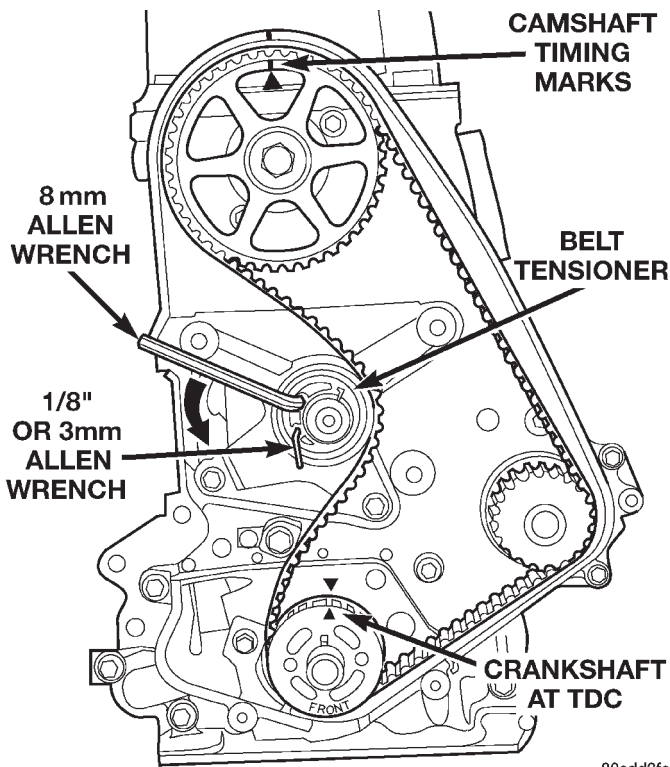

Fig. 79 Remove Timing Belt
(13) Install a 8 mm Allen wrench into the belt tensioner. Insert the long end of a 1/8" or 3 mm Allen wrench into the pin hole on the front of the tensioner (Fig. 79). Rotate the tensioner counterclockwise with the 8 mm Allen wrench, while pushing in lightly on the 1/8" or 3 mm Allen wrench until it slides into the locking hole.
(14) Remove timing belt.